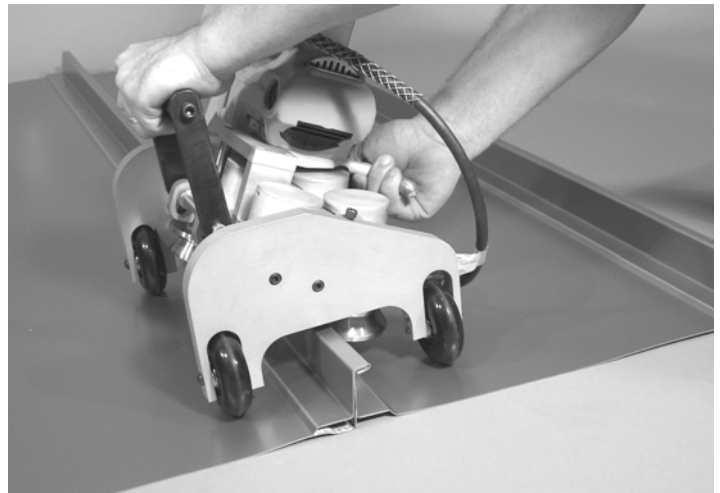

Figure 2: Open the Seamer Dies and position the seamer over the sidelap at the hand-crimped starting point.
6. Hold the Carrying Handle firmly and open the dies (Figure 2) with the Die Handle Lever. Once the dies are open, inspect the Die Rollers for foreign objects such as pieces of strippable film which could interfere with the seaming operation or marr the panel surface.